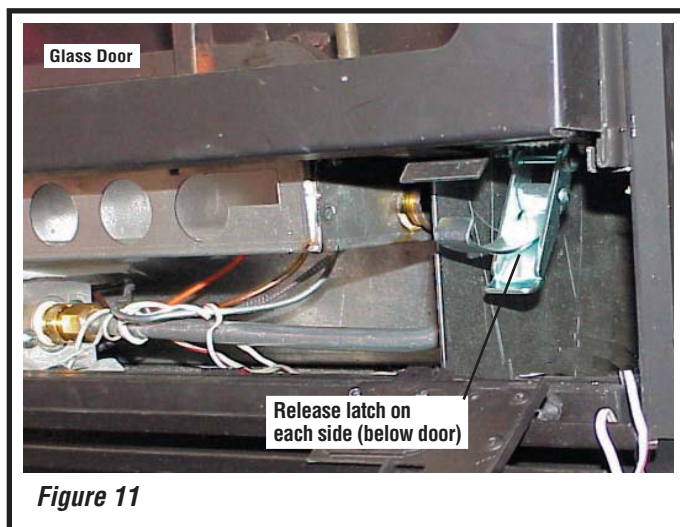

Figure 11
- 1) Open the two latches below the glass door as shown in **Figures 11 & 12**.